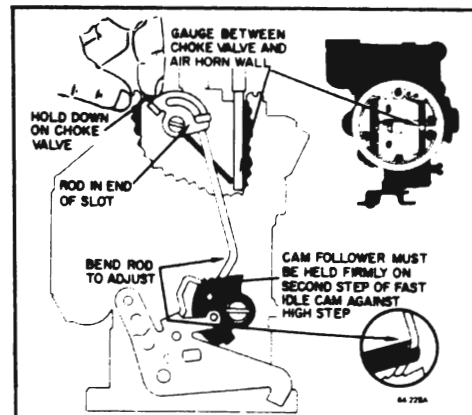

Figure 64-64 Choke Rod Adjustment
1. Place fast idle cam follower on second highest step of fast idle cam and hold firmly against rise to high step. See Figure 64-64.